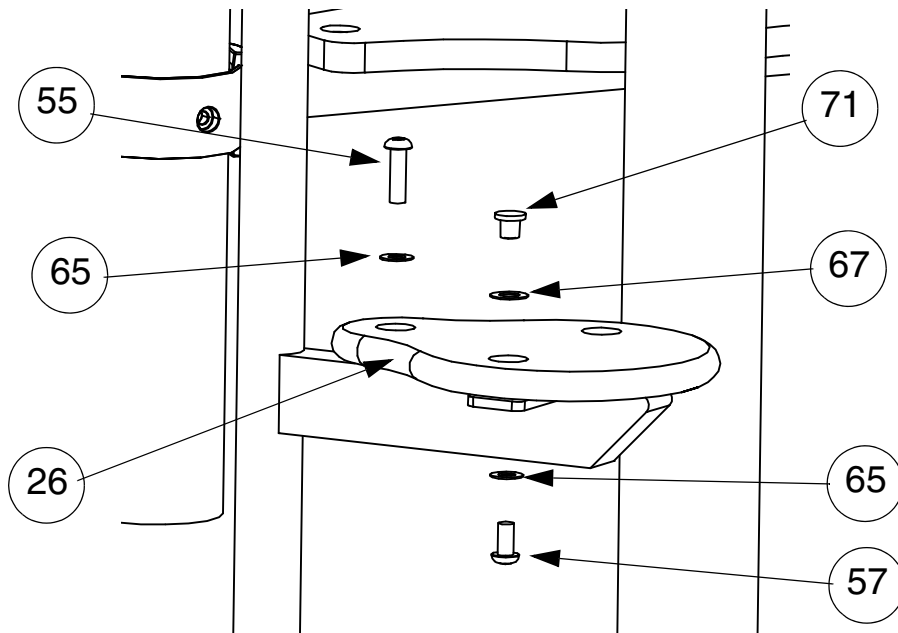

FIG.56
- 62) Assemble 3 off Petal Climber Steps (item 26) to Petal Climber - 900 (item 8) using 3 off M10 x 35 Resistorx bolts (item 55) and M10 Washers (item 65) to attach one end into inserts on frame and 6 off M10 x 20 Resistorx bolts (item 57), M10 Washers (item 65), M10 Teenut (item 71) and M12 Shockproof washers (item 67) to supports on frame. See FIG.56.